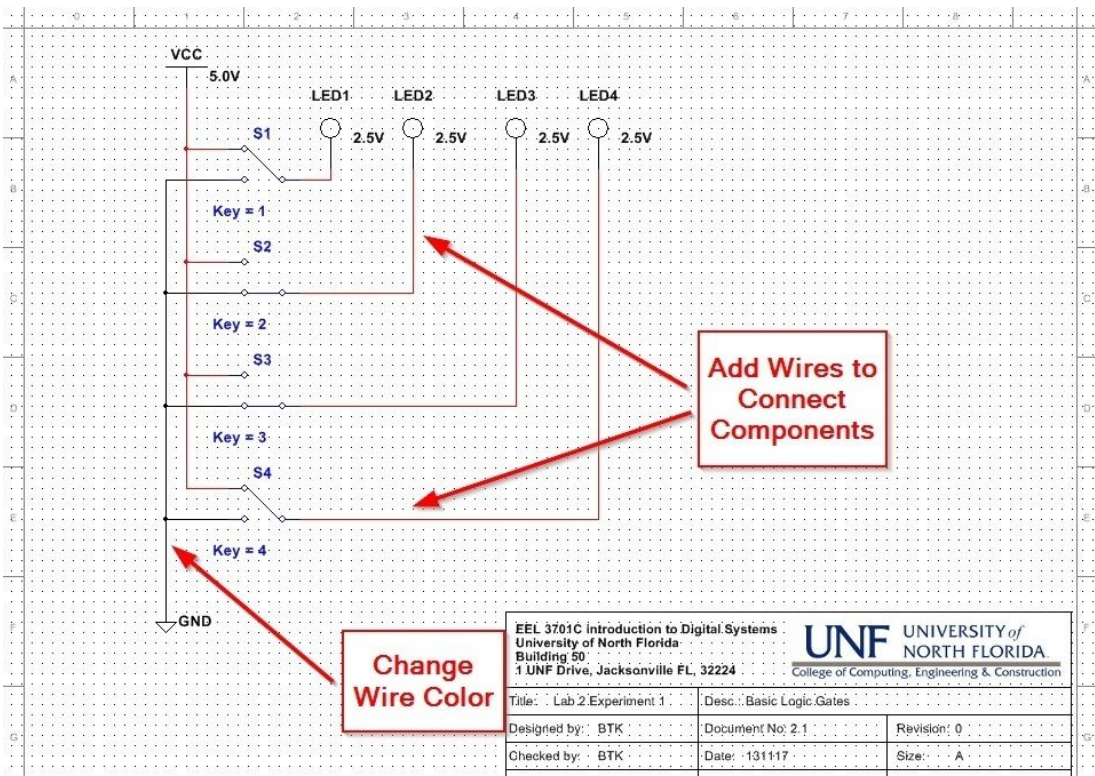

Figure 5. Connecting components.
14) Now it is time to connect the components together. Wires are drawn between component pins to interconnect them. Moving the cursor over a component pin changes the pointer to a crosshair, at which time you may click to initiate a wire from that pin. This causes a wire to appear, connected to the pin and the cursor. Move the cursor to the corresponding pin of the second component (the wire follows the cursor) and click to terminate the wire on that pin. If you do not like the path selected for the wire, you may click at a point on the drawing sheet to fix the wire to that point and then you can move the cursor to continue the wire from that point. You may also initiate or terminate a wire by clicking in the middle of a wire segment, creating a “junction” at that point. This is necessary when a wire is to be fanned out to more than one component input. Connect all of the components as shown in Figure 5.